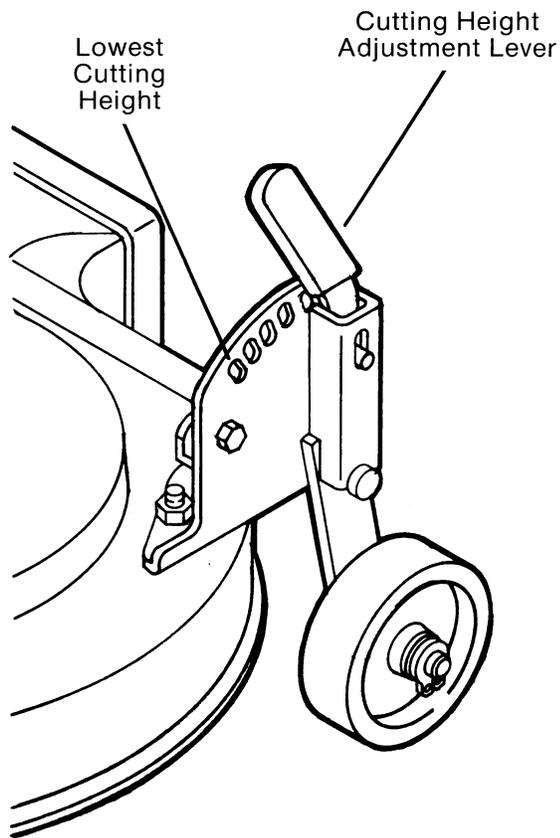

FIG. 4
- D. Move cutting height adjustment lever to the **lowest** cutting position. (Fig. 4)
- Move cutting height adjustment lever to the **lowest** cutting position. (Fig. 4)